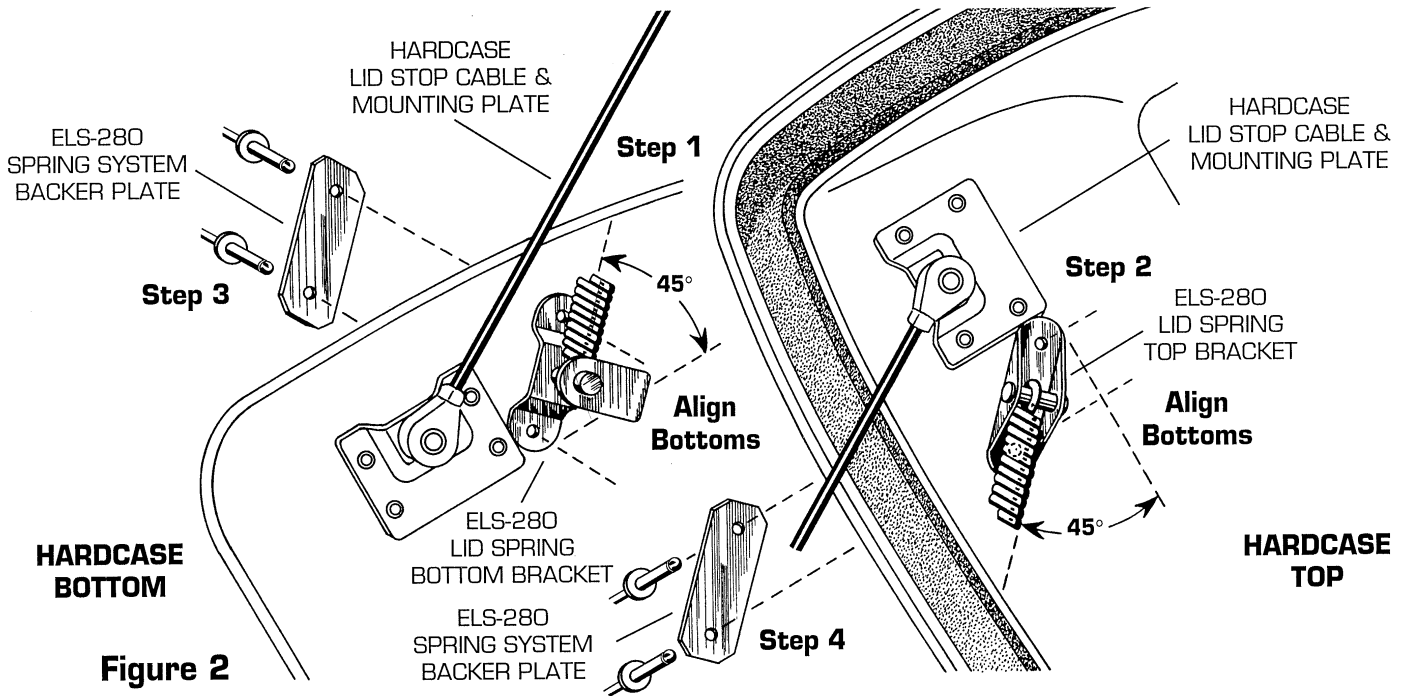

Figure 2
1. Open hardcase saddle bag lid to full extent allowed by cable. On hardcase bottom element, position Lid Spring Bottom Bracket to align with base of Cable Mounting Plate (arm of bracket facing down) and at a 45° angle from the cable plates right side. Holding bracket firmly, drill through both bracket holes with 1/8" bit. (See Figure 2, Step 1).
2. Repeat process of alignment, positioning and drilling for Lid Spring Top Bracket (See Figure 2, Step 2). Be sure to verify that Spring & Brackets are positioned as shown before proceeding.
3. Position a Lid Spring Backing Plate over the holes drilled in the hardcase side panel, place a pop-rievet and rivet through backing plate and Bottom Lid Spring Bracket—Pop-Riveting both holes (See Figure 2, Step 3).
4. Repeat process of alignment, positioning and pop-riveting for Lid Spring Top Bracket (See Figure 2, Step 4).